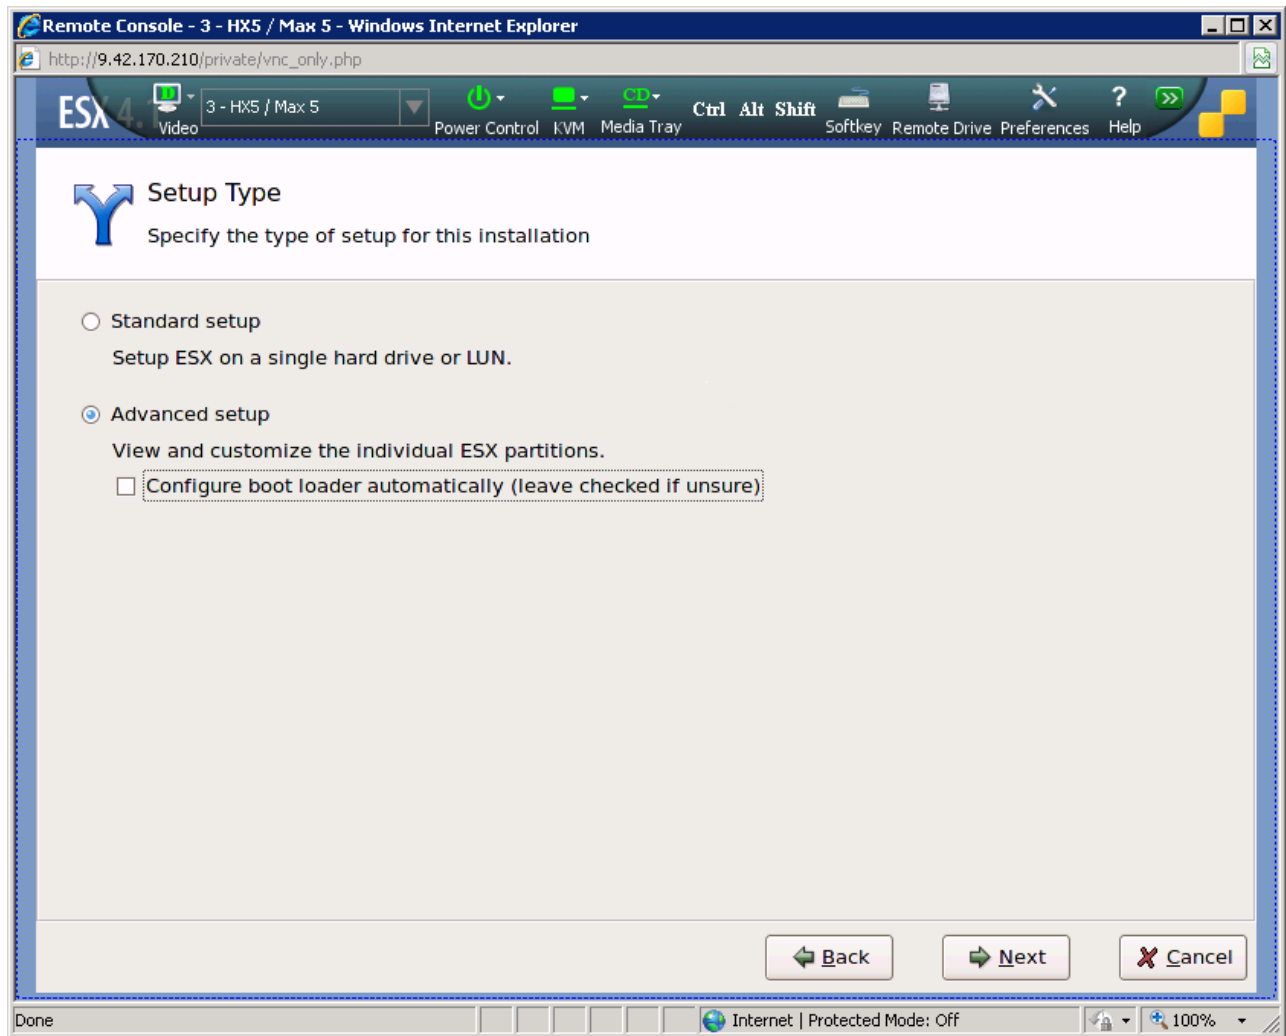

Figure 8-60 Modifying the ESX installation
5. Proceed through the installer until you reach the Setup Type page. Click **Advanced setup** and clear **Configure boot loader automatically (leave checked if unsure)**, as shown in Figure 8-60 on page 425.